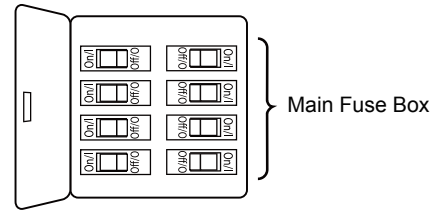

Figure 1
1. Slide the blade through the slot in the motor assembly and position blade over the motor assembly with threaded posts showing. Make sure the bottom edge of the blade is fully seated against the flywheel of motor assembly. Tighten blade plate with 3/16"-24 screw assembly to secure the blade to the flywheel of motor assembly. (Figure 1)
- 1. Remove the hanger ball portion from the downrod/hanger ball assembly by loosening the set screw in the hanger ball until the ball falls freely down the downrod. Remove the pin from the downrod, then remove the hanger ball. Retain the pin and hanger ball for reinstallation in Step 6. (Figure 1)
To avoid possible fire or shock, be sure electricity is turned off at the main fuse box before hanging. (Figure 1)
- 1. To set the code on receiver unit, slide dip switches to the same positions as set on the remote control. (Figure 1)